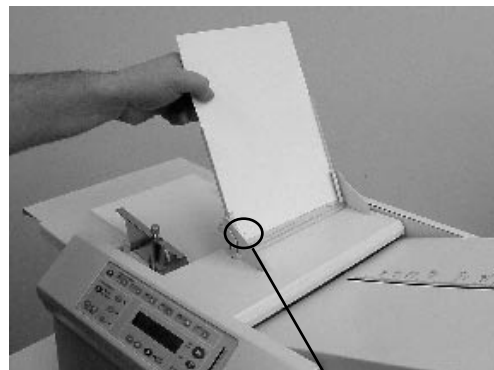

Fig. 9
3. Slide the pre-collated paper set into the multi-sheet feeder. When feeding stapled sets the documents should be placed with the staple on the operators side and leading (Fig 9).